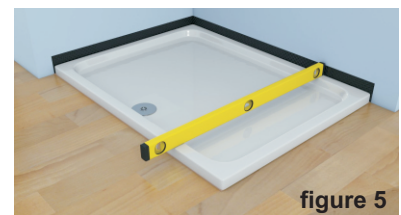

figure 5
5. Place the shower tray into final position and tap level as per figure 5. Allow the cement mix to set before applying any further weight to the shower tray.